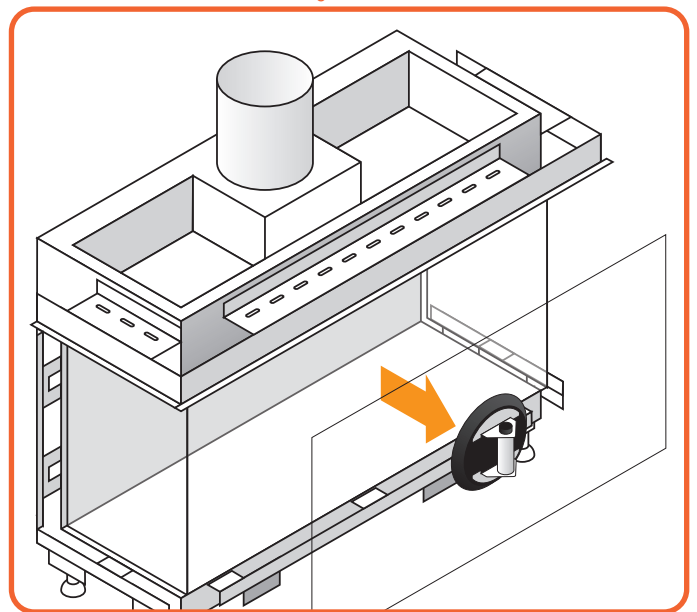

Figure 9.7 | Remove Windows
- Lift the glass out of the lower glass rail and tilt it out through the opening, as seen in Figure 9.7.